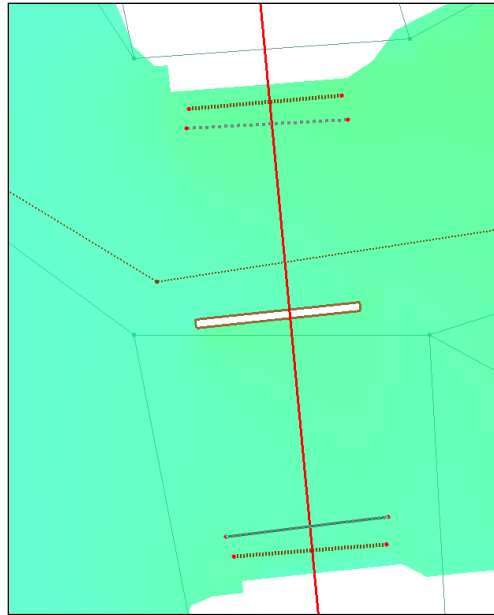

Figure 7 Two abutment toe arcs (indicated by arrows)
1. **Zoom**  into the bridge area (Figure 7).
The project should appear similar to Figure 7. Two abutment toe arcs should be crossing the contracted section arc near the bank arcs at the bridge.